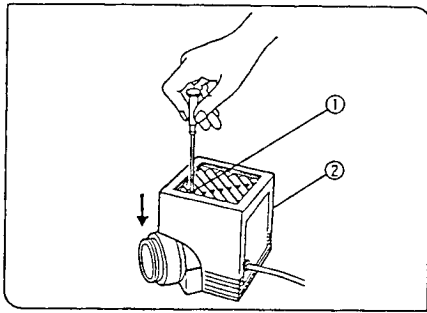
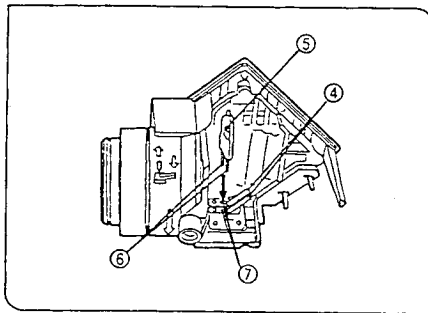

Fig. 8
Fig. 10
- 1. Fully loosen the lamp housing clamping screw ① on top of the lamp housing cover with the Allen screwdriver.
- 2. Lift the lamp housing cover ② upward to remove it. (Fig. 8)
- 3. Turn the lamp socket ③ 90° in the direction indicated by the arrow.
- 4. Holding the bulb ⑤ with gloves or a piece of gauze, depress the bulb clamping levers ④ and insert the bulb pins ⑥ fully into the pin holes ⑦. Gently release the bulb clamping levers ④ to their original position to secure the bulb. (Fig. 10)
- 5. Slide the lamp housing cover onto the housing base from above. Tighten the clamping screw ① while pressing downward on the cover. (Fig. 8)